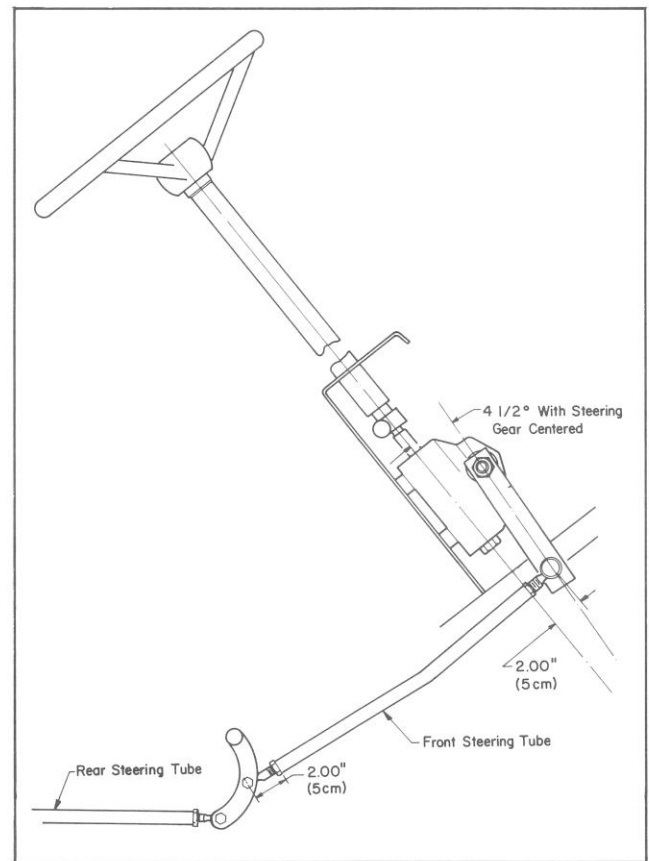

Figure 6
20. Adjust the front steering tube ball joints so the ball joint end is 2" from the end of the tube as shown in Fig. 6. Install front steering tube.
22. Release the rear steering tube jam nuts that secure the ball joints (Fig. 6).